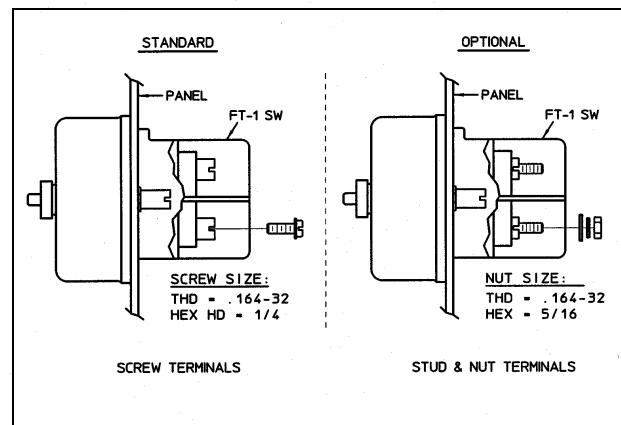

Figure 5. Standard and Optional Terminals
- Screw Terminals are provided with standard FT-1 Switch styles. They require customer connections be made with a hex washer head screw. (See Fig. 5)
- Stud and Nut Terminals are an optional feature. Customer connections are made with two washers and a nut. (See Fig. 5) A special nut driver can be purchased from ABB to connect to stud terminals. (See "ACCESSORIES – ORDERING INFORMATION" on page 8)